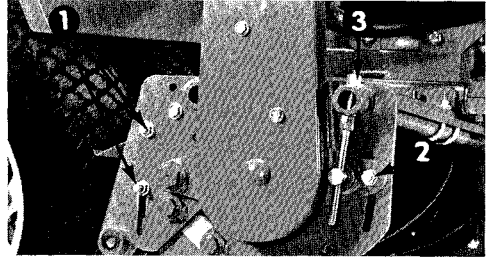

Figure 9
1. Loosen reel adjustment clamping nut on each side $\frac{3}{4}$ turn (Fig. 9).